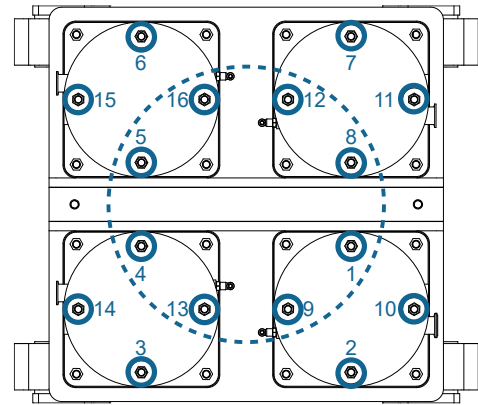

Figure 1
1. Start by loosening the 16 top nuts of the cartridges. (Figure 1)
3. Gradually cross-tighten the nuts according to the numbering pattern (figure 1). Final tightening to 42 Nm (80 m²) and 38 Nm (40 m²).